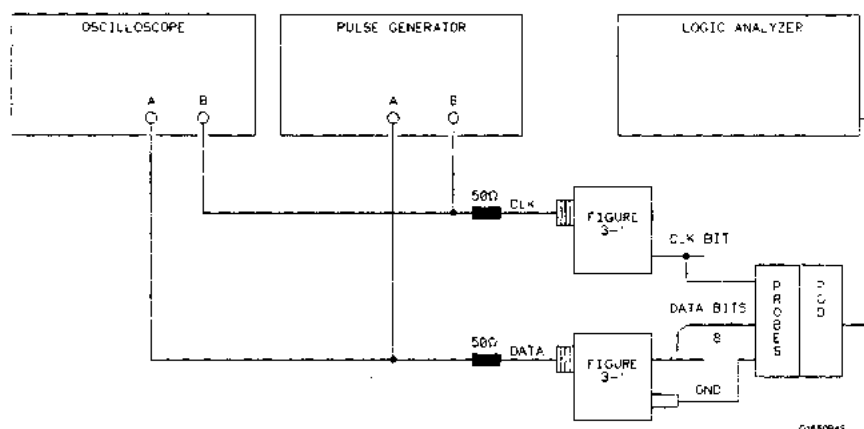

Figure 3-16. Setup for Data Test 3
1. Connect the HP 1652B and test equipment as in figure 3-16.